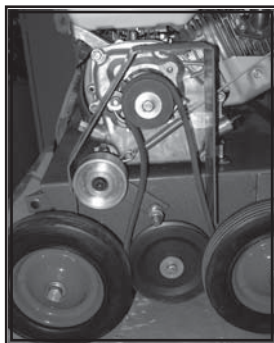

Fig.1: Remove drive guard.
4. Remove drive guard. (Fig.1)